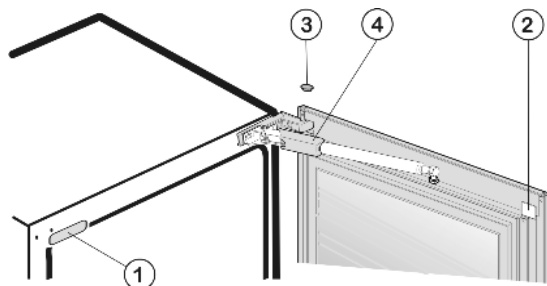

Fig. 3
- ▶ Lift off cover Fig. 3 (1) and cover Fig. 3 (2) as well as stopper Fig. 3 (3).
- ▶ Push cover of soft stop mechanism Fig. 3 (4) back and detach it.
- ▶ Attach the cover Fig. 3 (4) of the soft stop mechanism and slide it forwards.